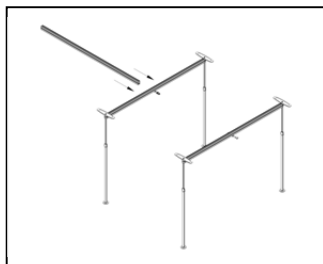

**Figure 46**
28. Slide the rail far enough to allow space to put the rail onto the set screw trolley (see Figure 45). Slide the rail back onto the set screw trolley (see Figure 46).